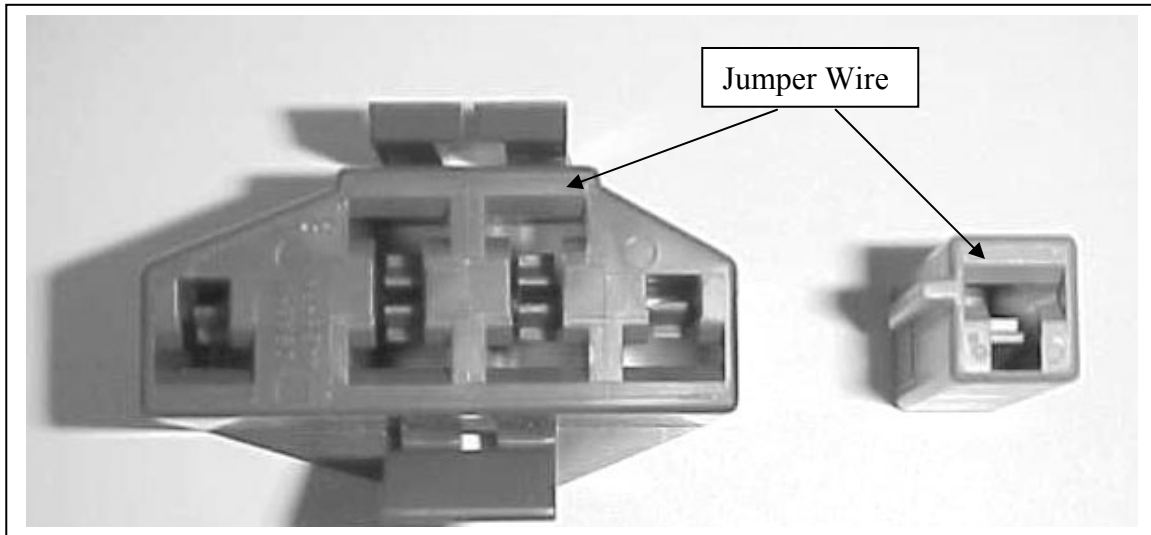

Figure 8.1 STO & STI Self-Test Connectors
8.2.2 In order to retrieve the trouble codes stored in the computer, locate the Self-Test connectors (STO and STI) (installed and connected in **Paragraph 6.2.1**). Take the STI connector and jumper it over to the STO connector. (See **Figure 8.1**)